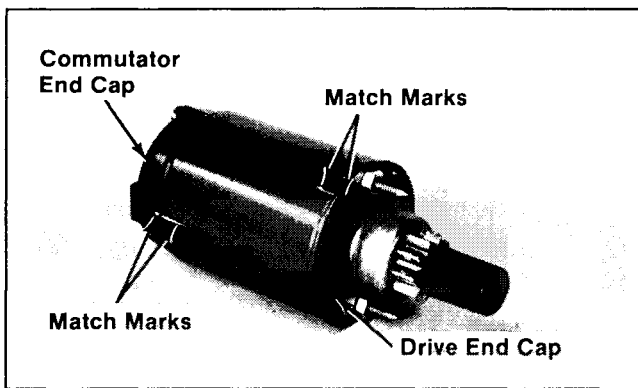

Figure 8-25. Starter Assembly Match Marks.
2. Install the thrust washer and drive end cap. Make sure the match marks on end cap and frame are aligned. Refer to Figure 8-25.
5. Make sure the match marks on end cap and frame are aligned. Refer to Figure 8-25. Install the thru bolts.